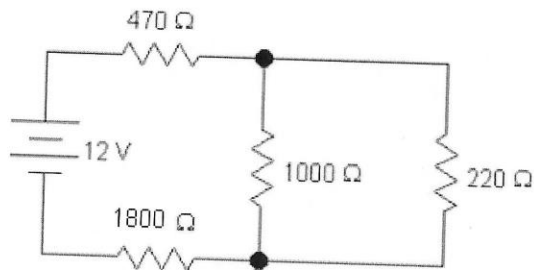

Figure 2: Resistors in Parallel
6. Connect the 220Ω resistor in parallel with the 1000Ω resistor as shown by the schematic in Figure 2.
2. Calculate theoretical voltages and currents using the measured resistance values for the circuit of Figure 2. Tabulate your results. Comment on the correlation of measured and theoretical values? Explain possible sources of error.
3. Calculate the power supplied to the circuit from the power supply. Determine the power dissipation of each resistor in the circuit of Figure 2. Does your result satisfy the conservation of power law? Explain
6. Did the currents I1000, and I220 in Figure 2, conform to the Current Divider?